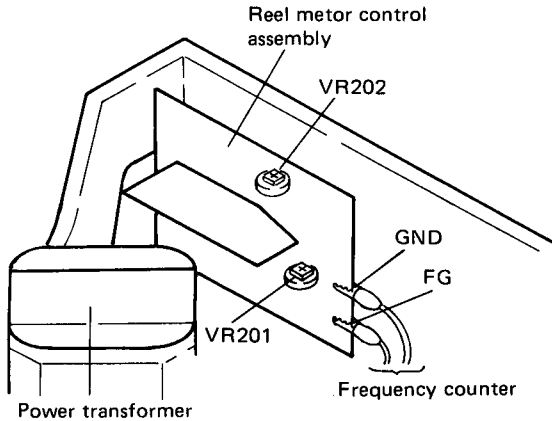

Fig. 4-5 FF/REW Rotating speed adjustment
1. Connect the frequency counter between FG of reel motor control assembly and GND (Fig. 4-5).
3. Adjust VR201 so that the take-up torque is $45 \pm 5 \text{ g-cm}$ (Fig. 4-5).